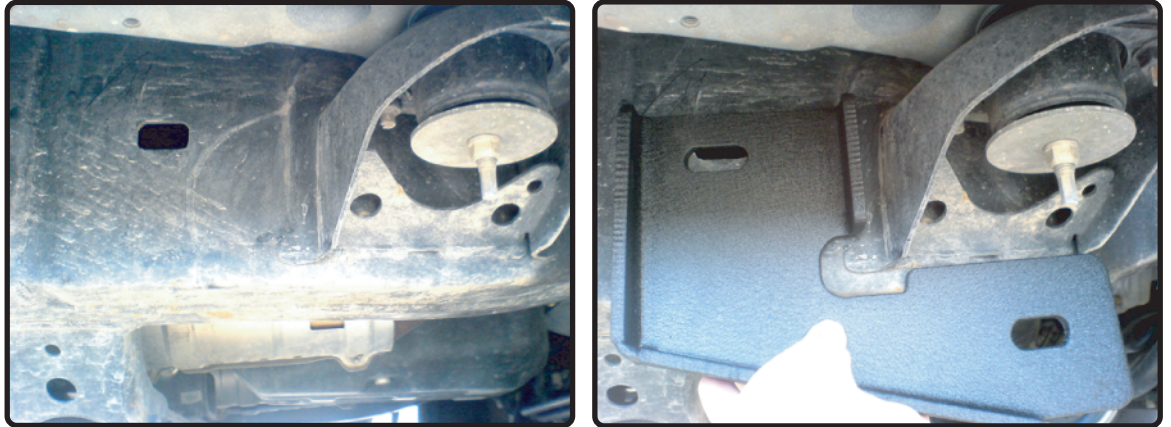

FIG 3
- STEP 3** INSTALL FRONT BRACKETS USING THE FRAME LOCKING BOLTS, PLASTIC WASHER, 7/16" FLAT WASHERS , 7/16" LOCK WASHERS AND 7/16" HEX NUTS. **(FIG 3)** HAND TIGHTEN ALLOWING FOR FINAL ADJUSTMENTS.